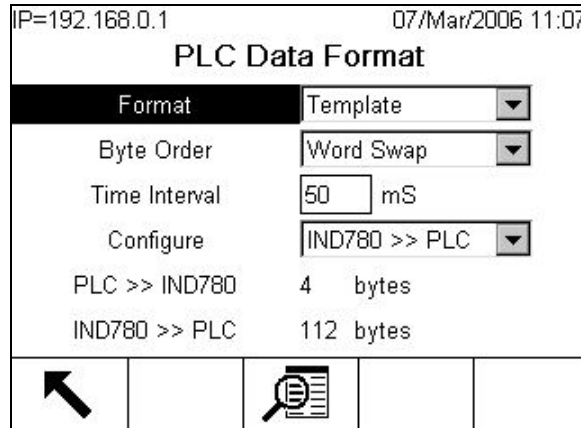

Figure 3-12: PLC Data Format Screen, Template Selected
- E. The bottom of this screen (Figure 3-12) displays the number of bytes that will be sent by the IND780 and the number of bytes expected from the PLC.